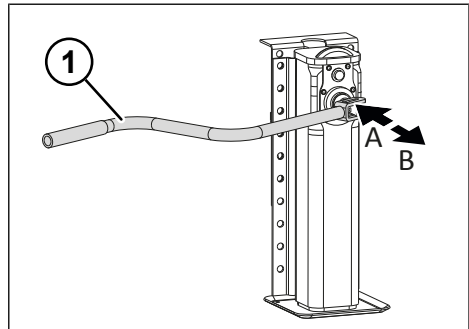

Fig. 5-8: Load speed and high speed of the rear brace
- ▶ Switch on high speed by pulling out the hand crank (see "Fig. 5-8: Load speed and high speed of the rear brace", pg. 32).
- ▶ Switch on load speed by pushing in the hand crank (see "Fig. 5-8: Load speed and high speed of the rear brace", pg. 32).
- ▶ Set to load speed by pushing in the hand crank (see "Fig. 5-8: Load speed and high speed of the rear brace", pg. 32).
- ▶ Set to high speed by pulling out the hand crank (see "Fig. 5-8: Load speed and high speed of the rear brace", pg. 32).